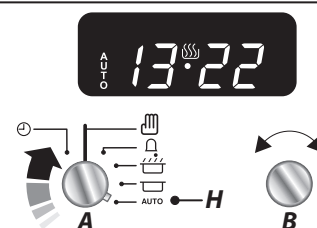

Fig. 3.7
3. Turn the **Timer (A)** knob to the **Auto (H)** setting. The display will show the current time, the cooking symbol and the word 'AUTO' (**Fig. 3.7**).